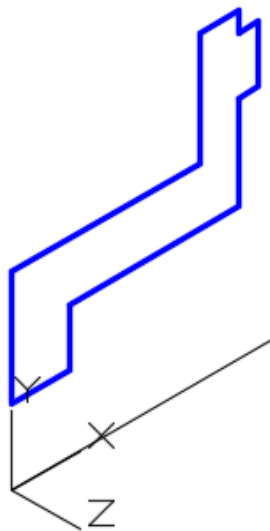

Figure Step 6
Step 6 On layer: Construction, draw a line, of any length, from 0,0,0 along the X axis. Enable ortho mode to draw it faster. This is the center of the model and will be used as the axis for the revolution. (Figure Step 6)